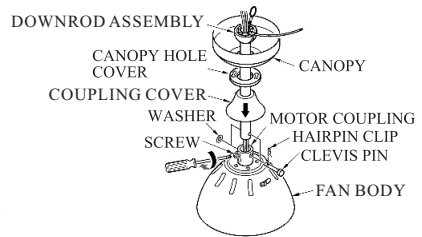

FIG.2
2. Insert the down rod through the center opening in the canopy, canopy hole cover, coupling cover and route the motor lead wires through the hanger ball/ downrod assembly. Align the holes in the downrod with the holes in the motor coupling. The clevis pin must pass through the holes in the motor coupling and the downrod. Place the washer onto the clevis pin and install the hairpin clip making sure to push straight leg of the hairpin clip through the hole near hanger ball to make sure the clevis pin is properly installed (see Fig.2)